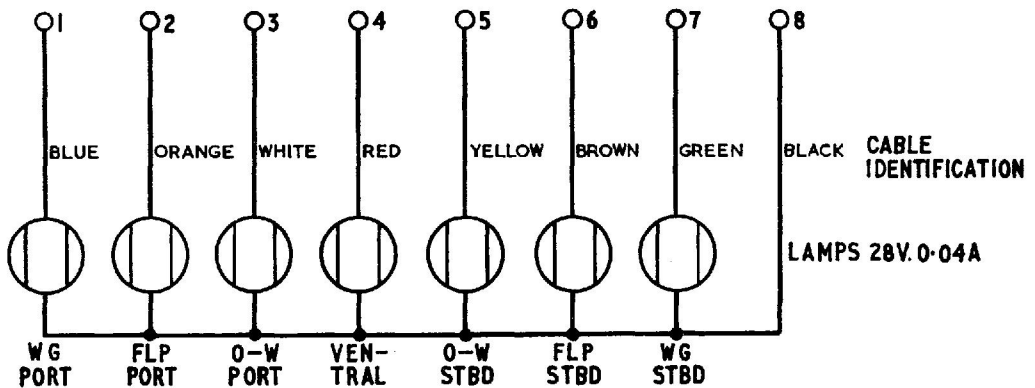

Fig. 1. Circuit diagram
2. The unit groups on one panel the appropriate number of warning lamps fitted behind a caption plate, one for each fuel tank (fig. 1).